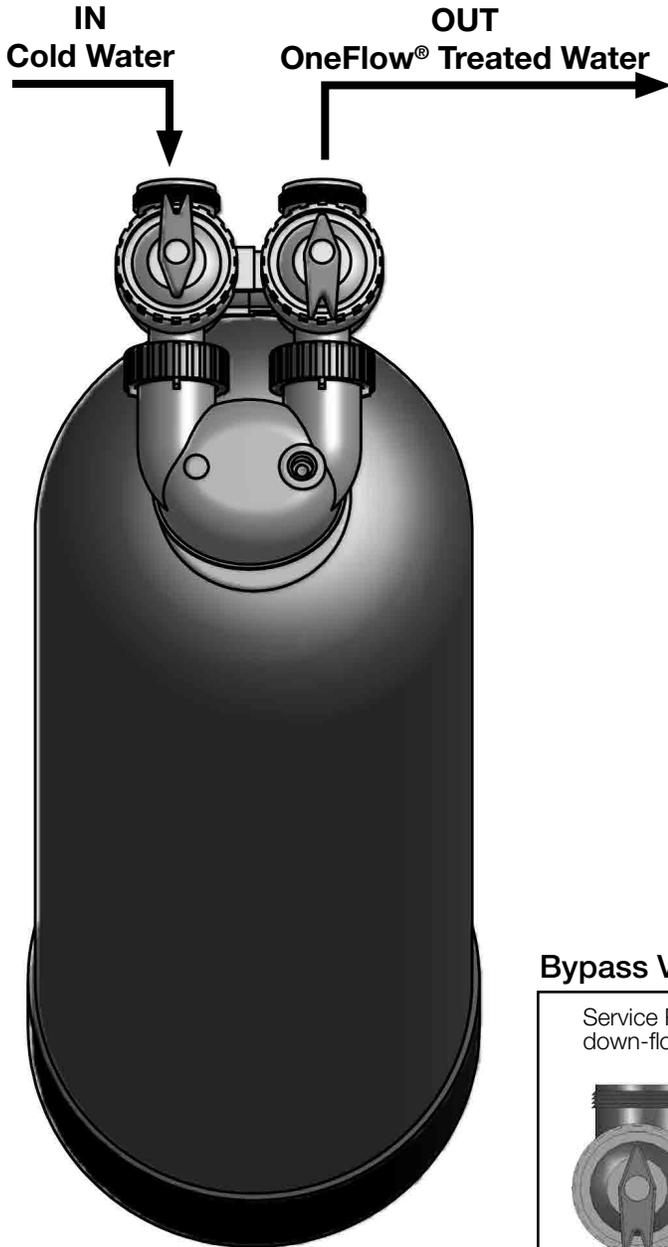

Figure 3.
- Because the OneFlow® system operates in the UP-flow mode, the tank connections are opposite of traditional installations. Please follow water flow diagram illustrated in Figure 3.
5. Connect the cold water supply to the inlet of the OneFlow® system. NOTE: The OneFlow® system operates in the UP-flow mode which is opposite of a conventional softener. Follow the plumbing diagram in Figure 3.